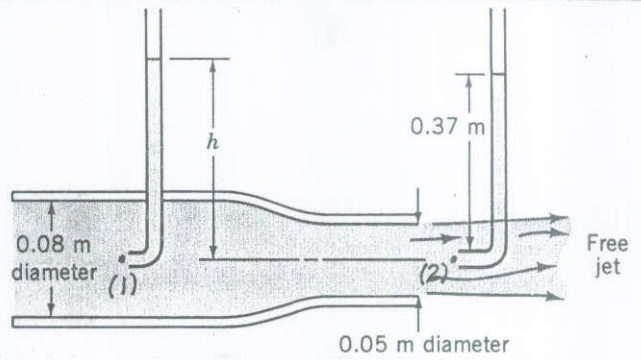

FIGURE P3.80
3.80 Determine the manometer reading,  $h$ , for the flow shown in Fig. P3.80